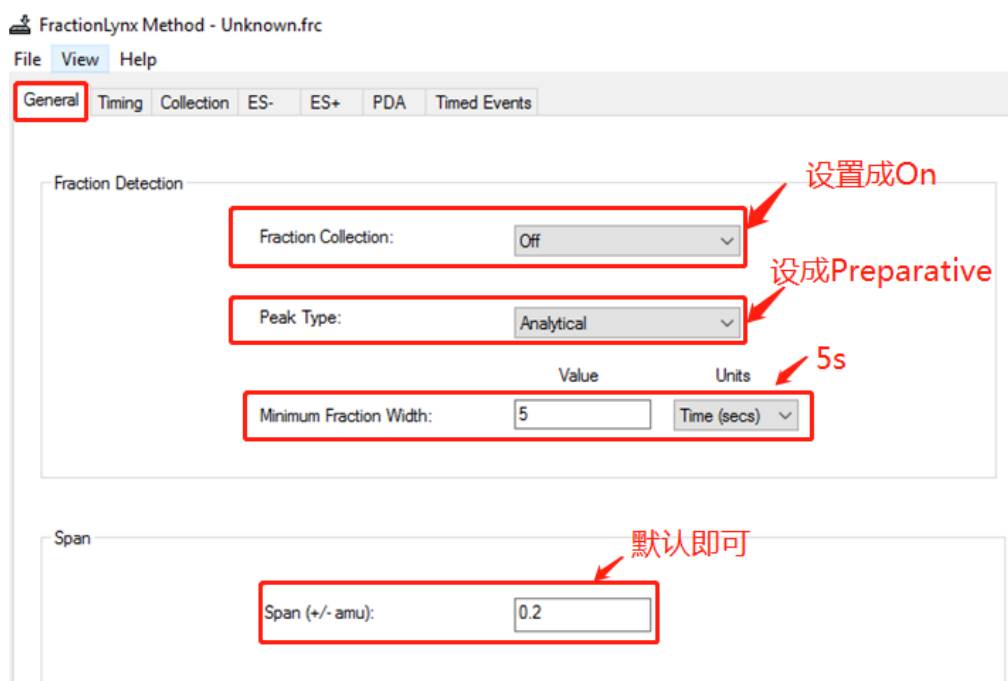

图6-35
**Step2** 设置General栏，Fraction Collection:On; Peak Type: preparative; Minimum Fraction Width: 5s; Span:默认值（图6-35）